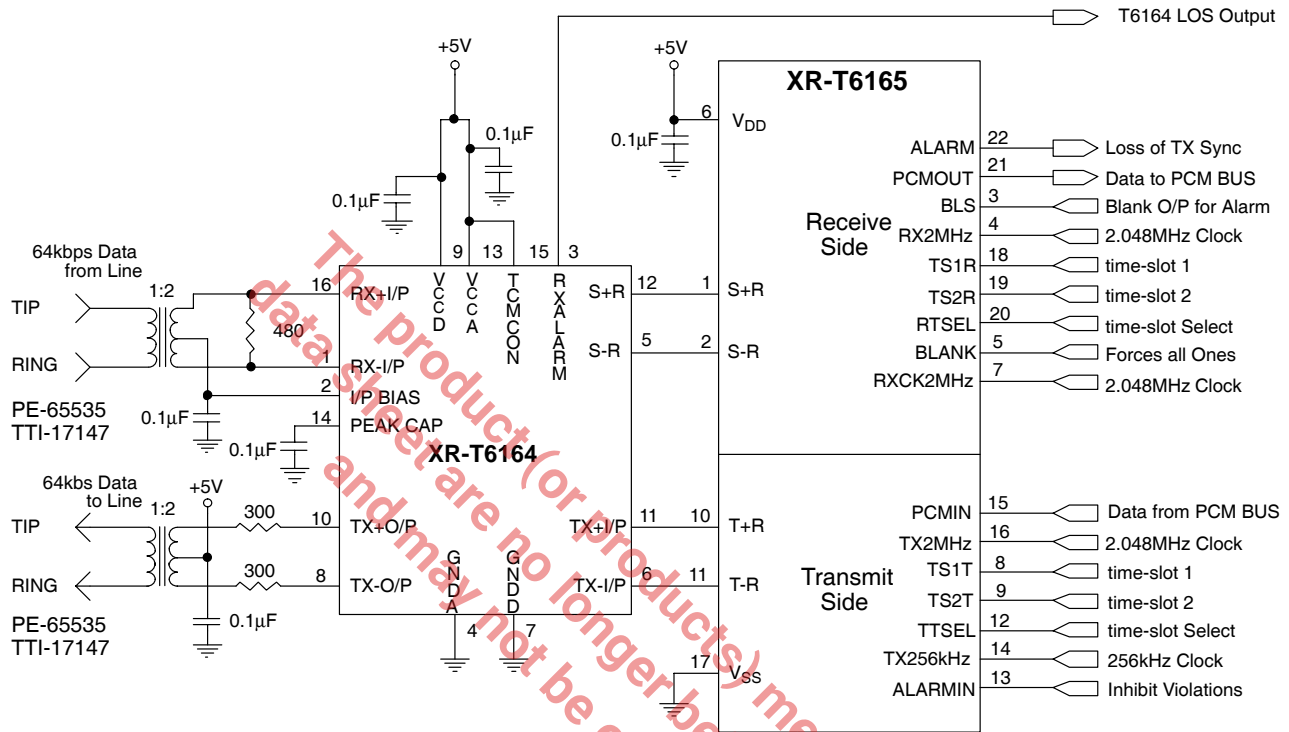

Figure 6. Typical Codirectional Application Circuit
*Figure 6* shows a codirectional interface circuit using the XR-T6165 with the XR-T6164 line interface. The XR-T6164 first converts the bipolar 64kbps transmit and receive signals to active-low TTL compatible data required by the XR-T6165. The XR-T6165 then performs the digital functions that are necessary to interface this 64kbps continuous data to a 2.048Mbps PCM time-slot.
The 64kbps signals that have been attenuated and distorted by the twisted pair cable are transformer-coupled to the line side of the XR-T6164 as shown on the left side of *Figure 6*. A suggested transformer for both the input and output applications is the pulse type PE-65535.
The right side of *Figure 6* shows the XR-T6164 LOS (Loss of Signal) output and the XR-T6165 digital inputs and outputs. All of these pins are TTL compatible. Please refer to the pin description section of this data sheet for detailed information about each signal.
pulses respectively of either polarity. Note that this mask is for the pulse measured at the XR-T6164 transmitter output (application circuit shown in Figure 6) when terminated with a 120Ω resistor.